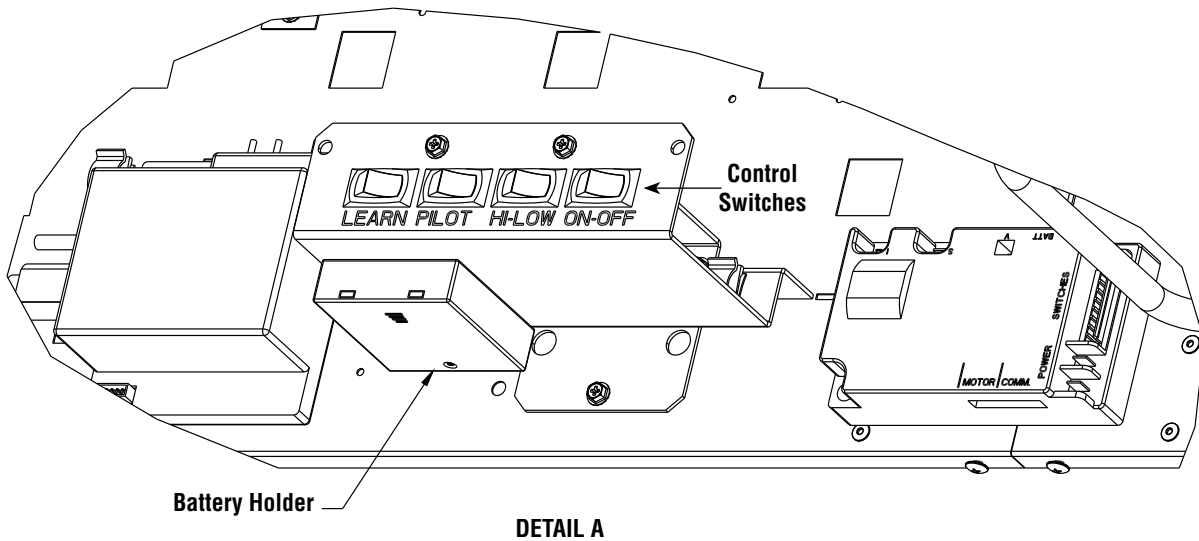

Figure 45 - Battery Holder and Control Switches (in control compartment)
1. Remove the facade and locate the battery holder (see **Figure 45**).
2. Install four (4) AA batteries in the battery holder (see **Figure 45**).